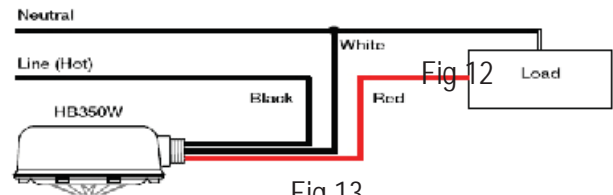

Fig 13
3. Wire sensor into the fixture as shown in Fig 13.